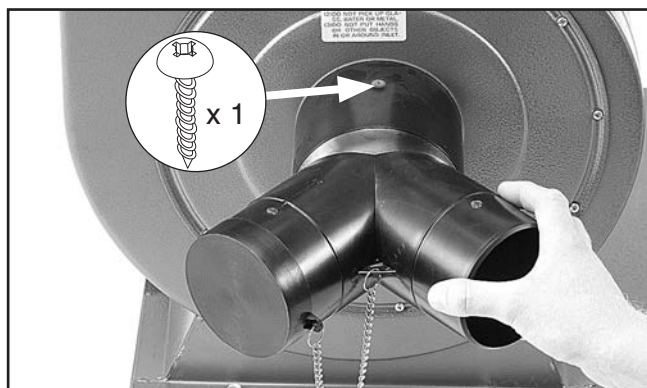

Figure 36. Installing "Y" inlet.
- Remove the pre-installed screw from the inlet cover, and secure the adapter to the cover flange with the screw (see **Figure 36**).